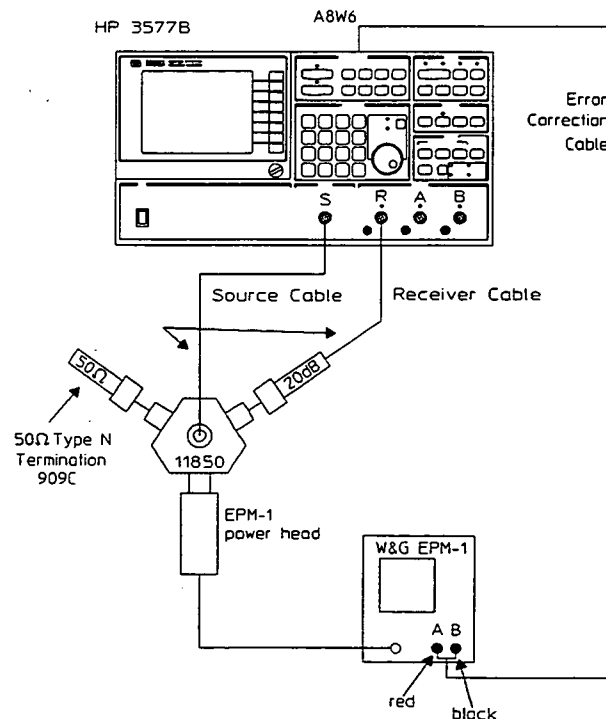

Figure 3-15. Channel R Calibration for Source Flatness and Accuracy
- m. Connect the equipment as shown in figure 3-15.